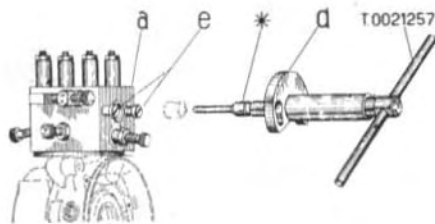

Fig. 16 - Bush extraction
2. - Remove the worn bush by means of extractor T. 0021257 provided with item « 5 » (marked with an asterisk), as shown in Fig. 16. Secure the flange
Fit the new bronze bush by means of the tool T. 0021257 as shown in Fig. 16, replacing part «5» of the tool (marked with an asterisk) with the new bush to be assembled.